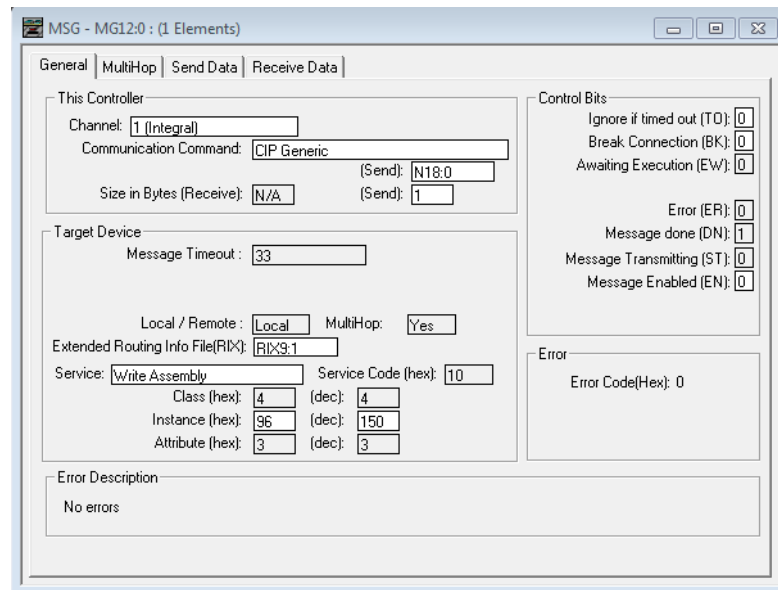
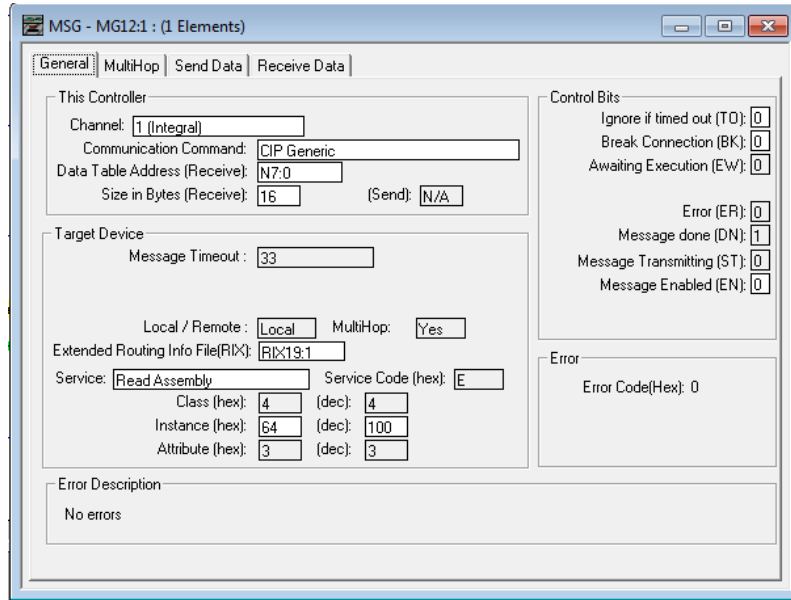

Figure 9.6: Message Structure (Write Command) Settings
Figure 9.7: Message Structure (Read Command) Settings
- The Message Structure settings are shown in **Figure 9.6** (write command) and **Figure 9.7** (read command).